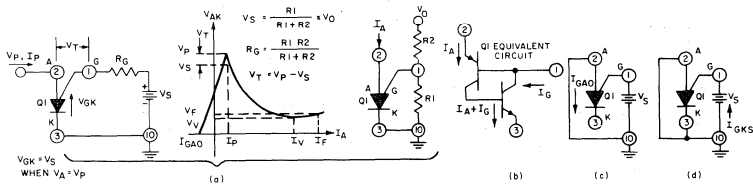

Fig. 22 - General anode characteristics for Q1 (PUT).
* V_T = V_p - V_S (Fig. 22)
The programmable unijunction transistor is essentially an anode-gate SCR. The volt-ampere characteristic of the device is shown in Fig. 22. When an equivalent Thevenin source (V_S, R_G), as shown in Fig. 22, is applied to the gate terminal the device will be "off" if the anode-voltage is negative with respect to the gate voltage. Under this condition, any current flow is exclusively leakage current. When the anode voltage becomes more positive than the gate voltage by an increment equal to the threshold voltage (V_T = 0.4 V typ.), the device can turn "on" only if the current available at the anode terminal is greater than the specified peak-point current. The PUT will then switch through its negative-resistance region to the "on" state (low anode-to-gate voltage). It should be noted